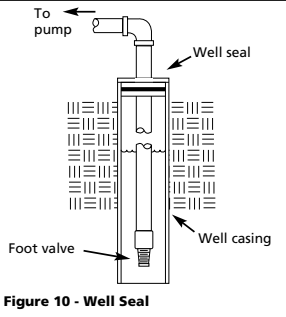

Figure 10 - Well Seal
1. Install a foot valve on the first section of pipe (Figure 10).